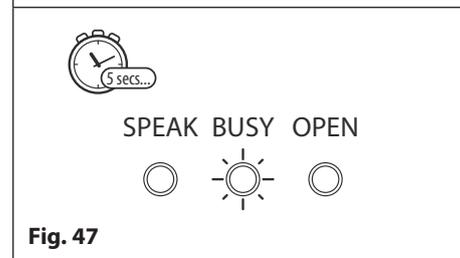

Fig. 47
7. After a short delay of approximately 5 seconds the busy LED will stop flashing, as shown in **Fig.47**, to indicate that the master code has been reset back to the factory default 1111 (4x1);
8. After the reset remove the short between the blue (c) and yellow (6) wires.